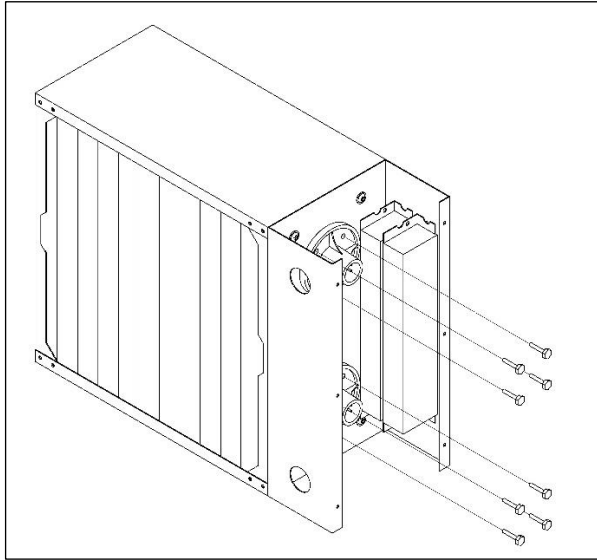

Figure 7
7.) Lamps are attached to PCP panel with (4) 10-16 Self-Drilling screws per lamp. Remove the screws using a 5/16" socket wrench. See Figure 7.
11.) Reinsert (4) screws per lamp using a 5/16" socket wrench. See Figure 7.